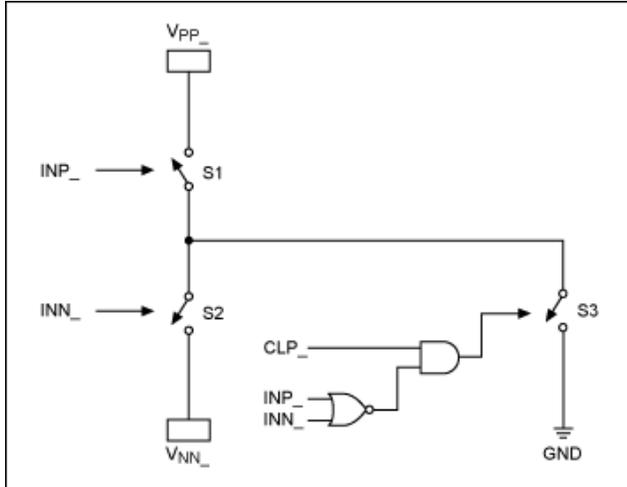

Figure 1. The MAX4940 functional diagram (1 of 4 channels).
Figure 1 shows the essential functional diagram of the MAX4940, a device that features 4 channels for high-voltage (HV) digital pulsing. (Only 1 out of the 4 channels is displayed in the diagram.)